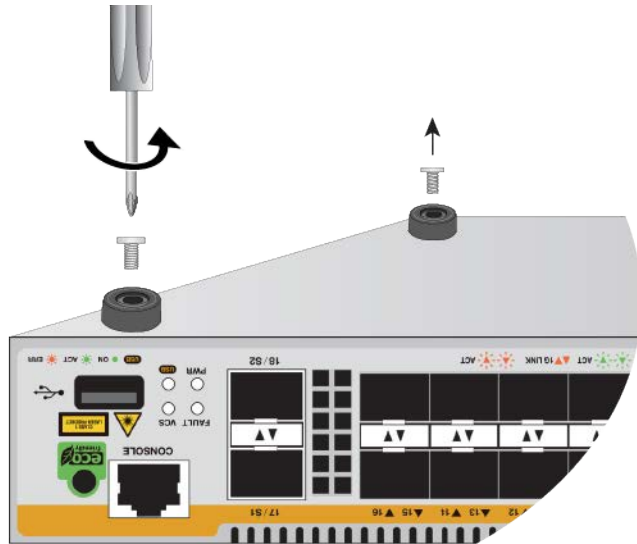

Figure 22. Removing the Bumper Feet
2. Use a cross-head screw screwdriver to unscrew the bumper foot screws. See Figure 22.
2. Use a small flat-head screwdriver to gently pry the rivet from the bumper feet. See Figure 22.